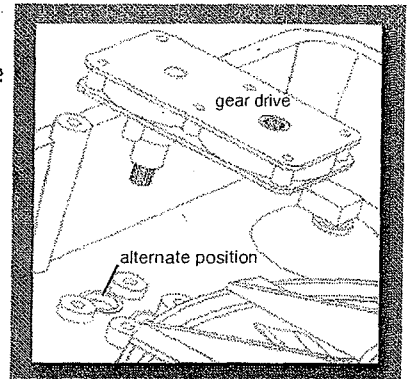

Figure 1 (Ventline only)
8) For converting a Ventline only: Unscrew (two screws) and move the Gear Drive to alternate position as shown in Figure 1. Re-install two screws in new position.